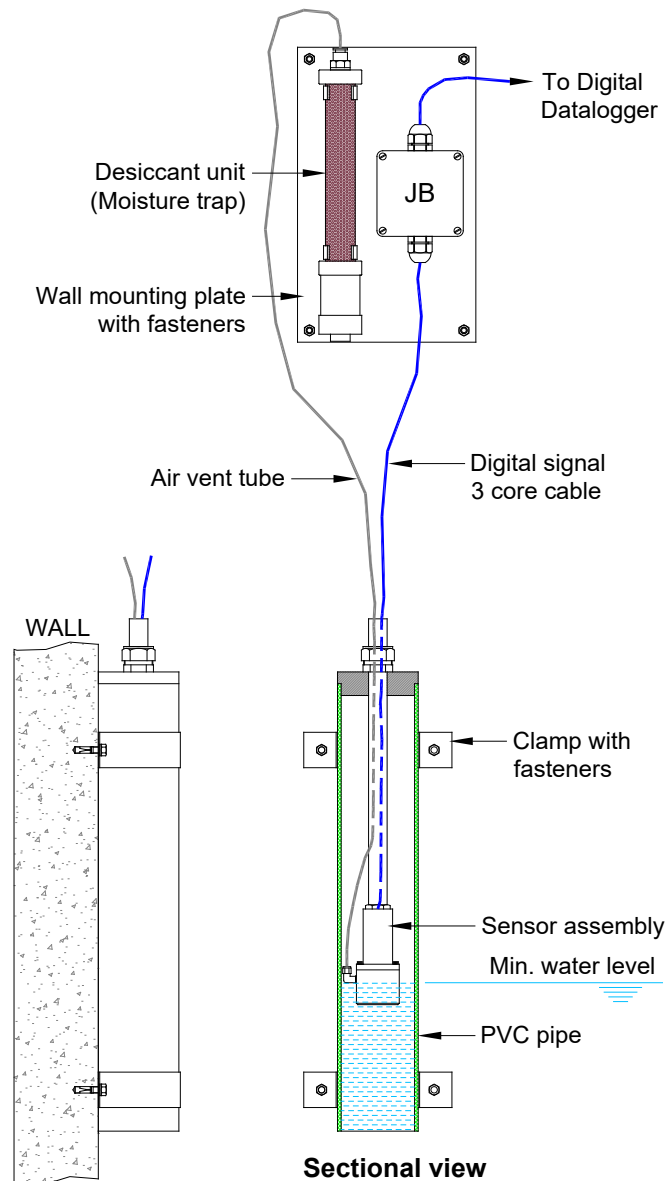

Figure 4-2 Typical installation of model ESM-12S/1 digital seepage monitoring sensor
- Two clamps with expandable fasteners are provided to fix the PVC perforated pipe on the wall. Mark position of holes on the clamps for expandable anchors at the selected installation location. Drill 8 mm diameter holes 75 mm deep to fix the PVC perforated pipe with clamps, using Hilti M8x75 mm expandable anchors or equivalent, as shown in figure 4-2.
- Fix the wall mounting plate on a vertical surface/wall, near the sensor location, by means of the two Hilti expandable fasteners HPS-1 5/5x25 or equivalent (see figure 4-2 and 4-3).